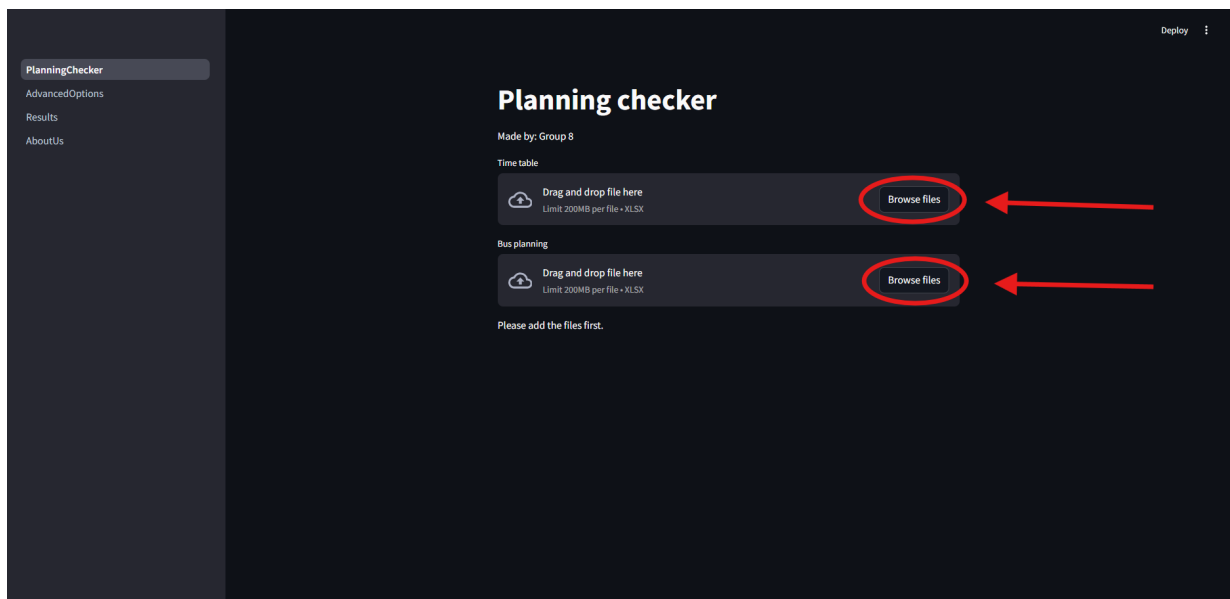

Figure 1: The home screen with the upload buttons highlighted.
2. On the 'PlanningChecker' page, click on the 'Browse files' button and upload the correct file (see figure 1).